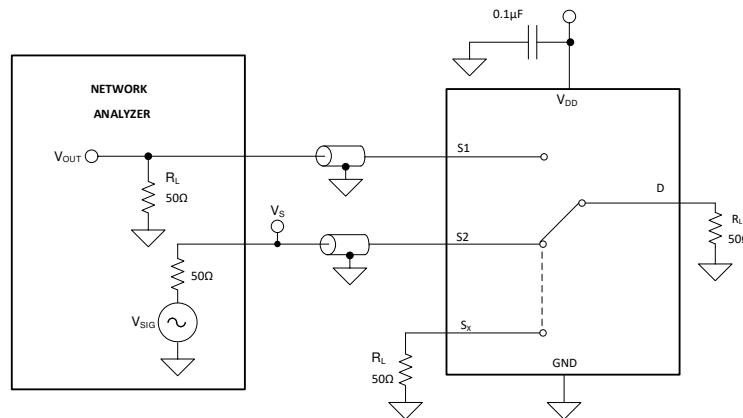

Figure 7-9. Channel-to-Channel Crosstalk Measurement Setup
Crosstalk is defined as the ratio of the signal at the drain pin (D) of a different channel, when a signal is applied at the source pin (S_x) of an on-channel. Figure 7-9 shows the setup used to measure, and the equation used to compute crosstalk.